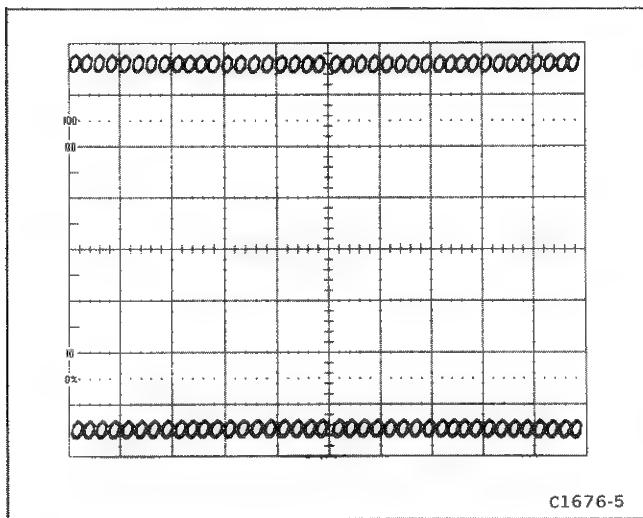

Figure 5-4. Readout display with Q2225 removed.
- e. **EXAMINE**—the crt display for two rows of zeros, 40 zeros to a row with no character overlap. The two rows of zeros should be located vertically in the middle of the top and bottom divisions of the graticule (see Fig. 5-4).
e. **EXAMINE**—the crt display for two rows of zeros, 40 zeros to a row. The two rows of zeros should be located vertically in the middle of the top and bottom divisions of the graticule (see Fig. 5-4).